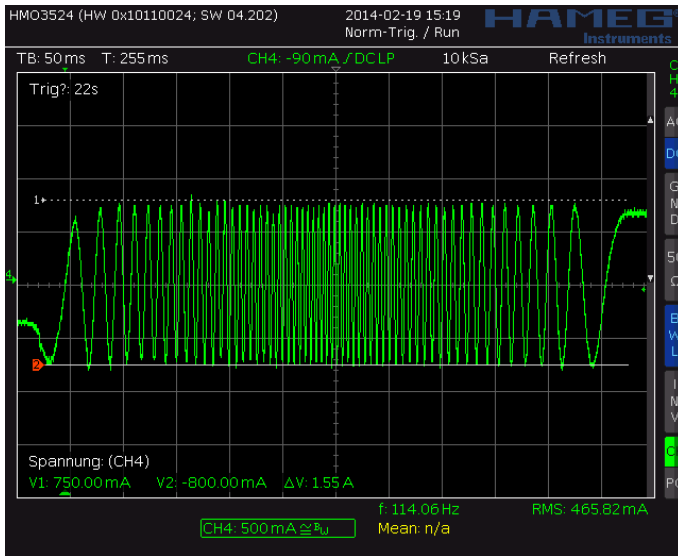
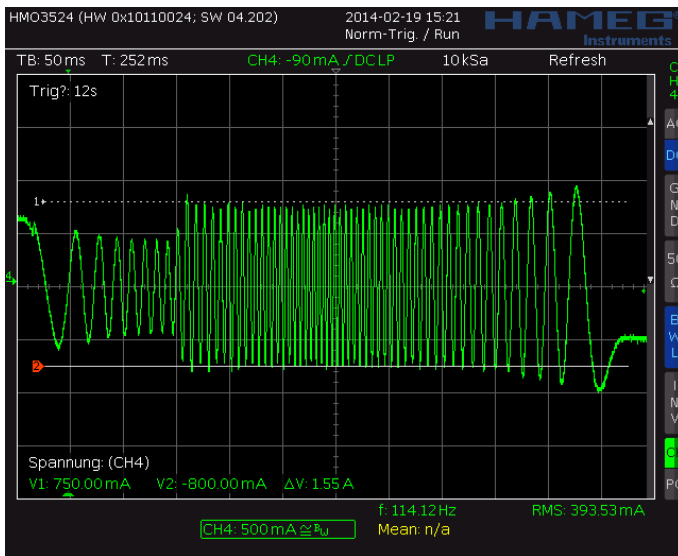
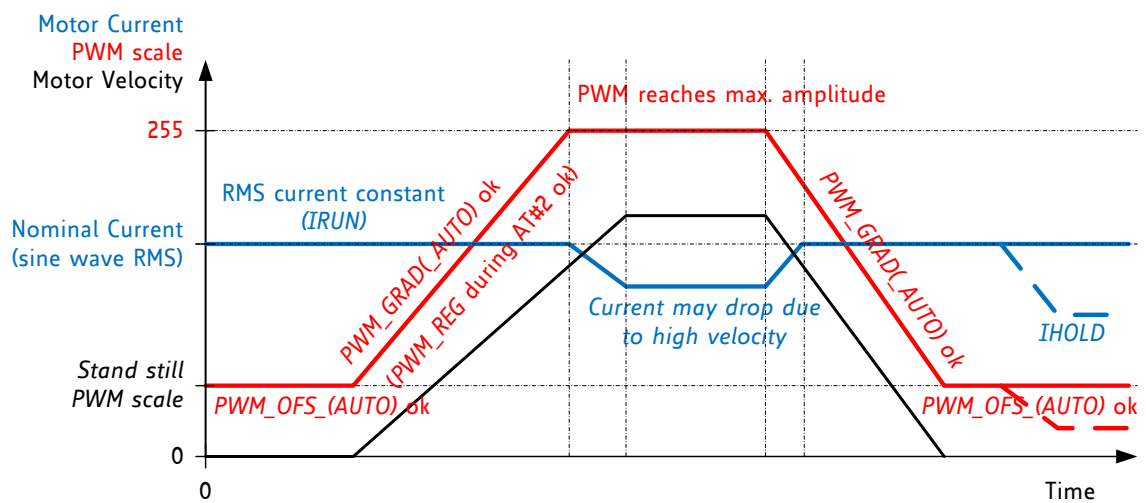

Figure 6.3 Scope shot: good setting for PWM\_REG
Figure 6.4 Scope shot: too small setting for PWM\_REG during AT#2
Figure 6.5 Successfully determined PWM\_GRAD(AUTO) and PWM\_OF(S)\_AUTO
In StealthChop voltage PWM mode, the autoscaling function ( $pwm\_autoscale = 1$ ,  $pwm\_auto\_grad = 1$ ) regulates the motor current to the desired current setting. Automatic scaling is used as part of the automatic tuning process (AT), and for subsequent tracking of changes within the motor parameters. The driver measures the motor current during the chopper on time and uses a proportional regulator to regulate  $PWM\_SCALE\_AUTO$  in order match the motor current to the target current.  $PWM\_REG$  is the proportionality coefficient for this regulator. Basically, the proportionality coefficient should be as small as possible in order to get a stable and soft regulation behavior, but it must be large enough to allow the driver to quickly react to changes caused by variation of the motor target current (e.g. change of  $VREF$ ). During initial tuning step AT#2,  $PWM\_REG$  also compensates for the change of motor velocity. Therefore, a high acceleration during AT#2 will require a higher setting of  $PWM\_REG$ . With careful selection of homing velocity and acceleration, a minimum setting of the regulation gradient often is sufficient ( $PWM\_REG=1$ ).  $PWM\_REG$  setting should be optimized for the fastest required acceleration and deceleration ramp (compare Figure 6.3 and Figure 6.4). The quality of the setting  $PWM\_REG$  in phase AT#2 and the finished automatic tuning procedure (or non-automatic settings for  $PWM\_OFS$  and  $PWM\_GRAD$ ) can be examined when monitoring motor current during an acceleration phase Figure 6.5.